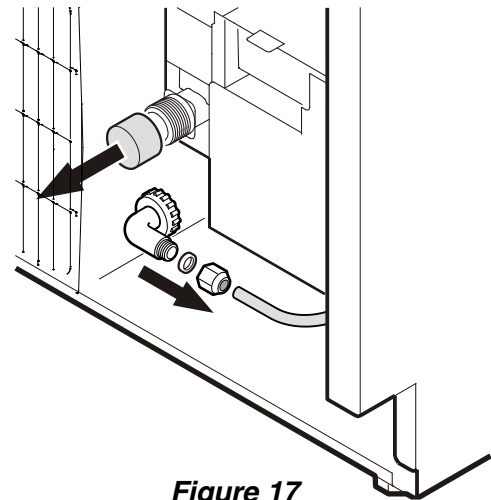

Figure 17
5. Remove the cover from the valve connector (**Figure 17**).
6. The water line is visible at the front of the appliance. Connect the water line to the OD adapter (**Figure 17**).